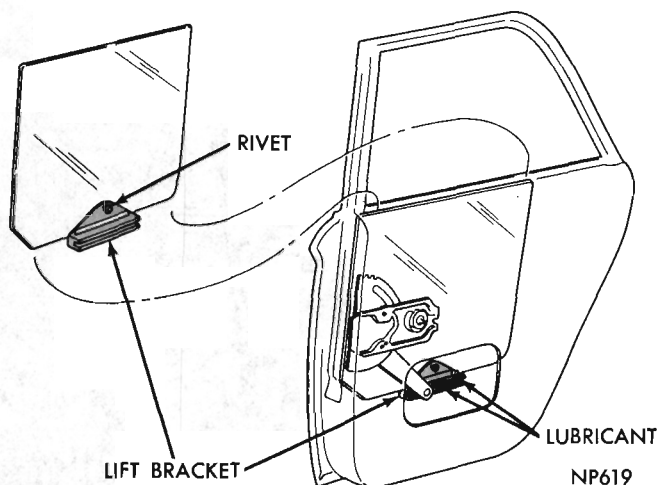

Fig. 6 - Rear Door Glass Replacement-Sedan
- (1) Loosen window track adjusting nuts (Fig. 6) and remove glass from run channels.
- (2) Remove regulator arm from lift bracket channel.
- (3) Remove glass from door.
- (4) Remove lift bracket from glass.